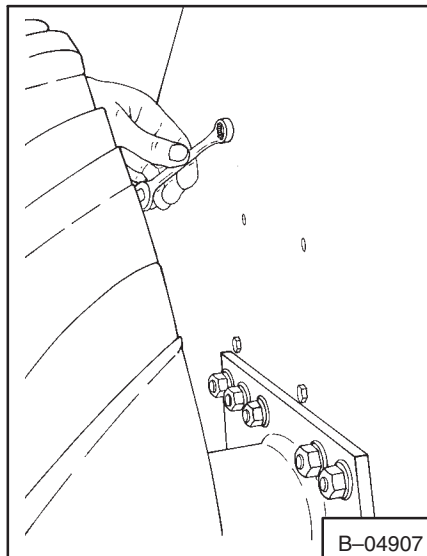

Fig. 2-8 Removing Control Valve Bolts
9. Remove the three bolts on the outside of the fender (Fig. 2-8).